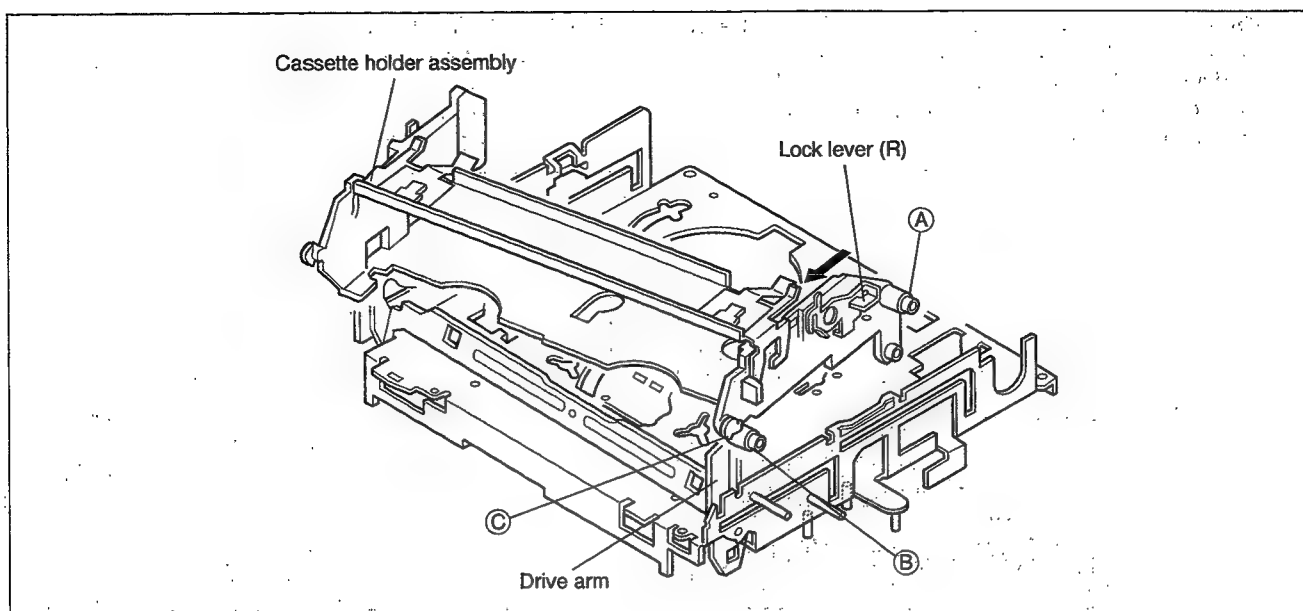

Fig. 2-2-7
- (1) Hold the drive arm upright and fit the leg © on the right side of the cassette holder assembly into the groove. (See Fig.2-2-7)
- (2) While swinging the lock lever (R) of the cassette holder assembly toward front, put the legs A and B into the rail. (See Fig.2-2-7)